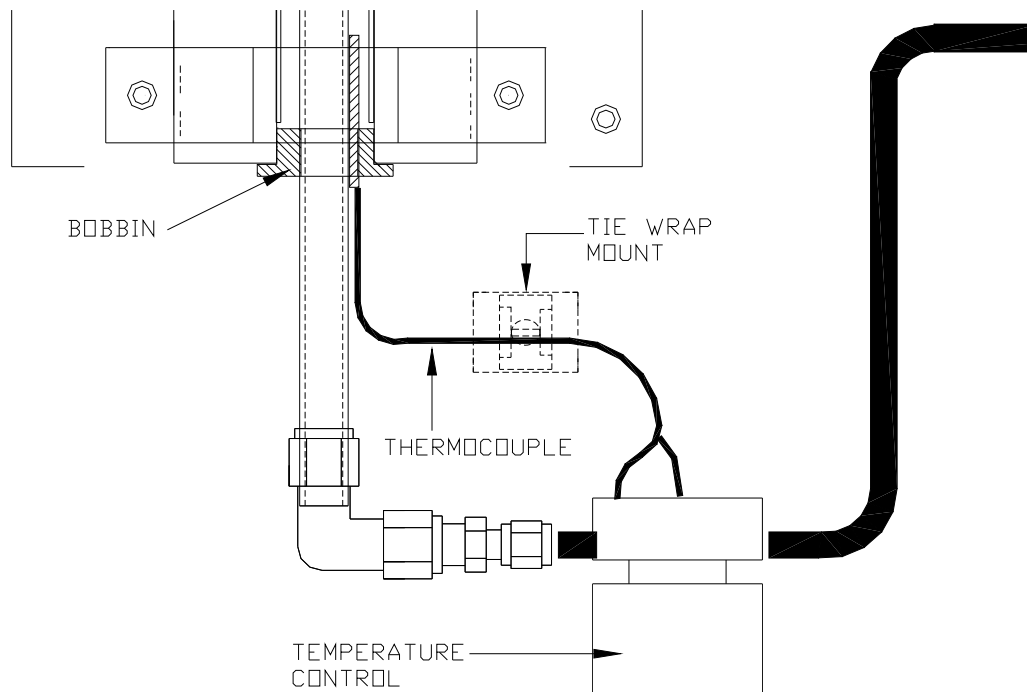

Figure 11-8. Tie-Wrap Hold-Down Location
16. Clean the chassis where the Tie-Wrap Hold-Down will be placed (alcohol is recommended), and place the Tie-Wrap Hold-Down as shown in Figure 11-8.